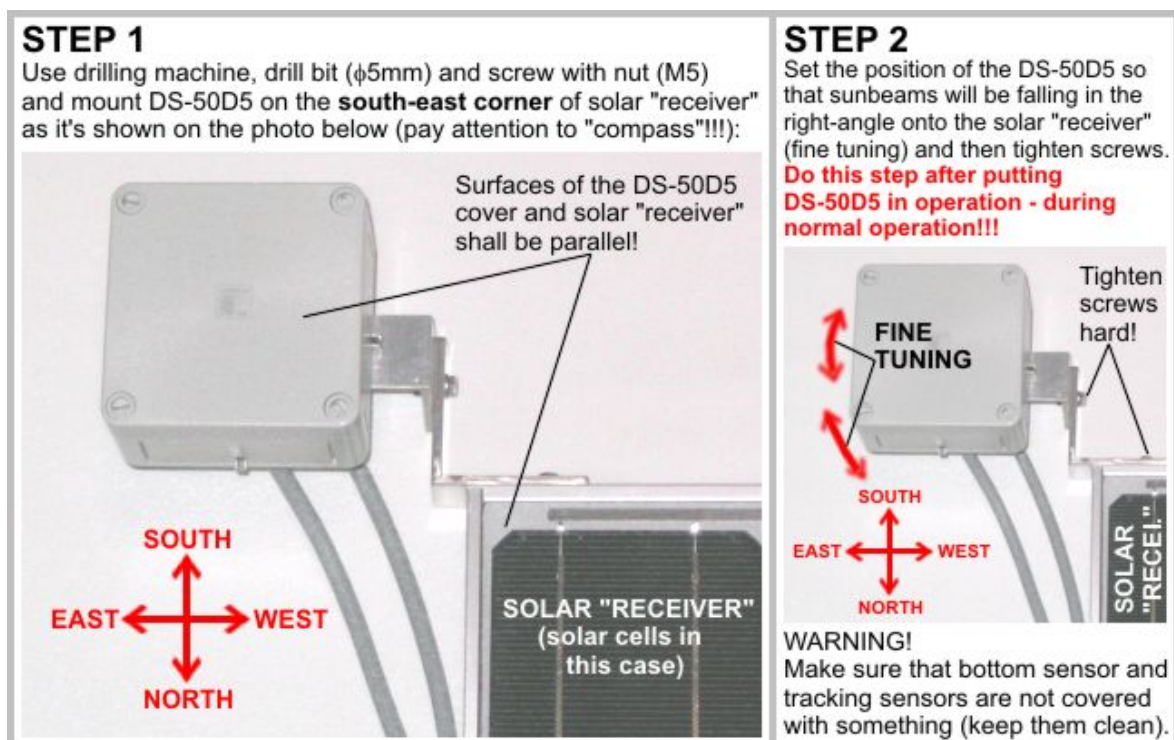

Figure 8: Mounting DS-50D5 on the solar "receiver" (southern hemisphere)
b) If your tracker (solar "receiver") is positioned somewhere in the southern hemisphere of the earth mount DS-50D5 on the south-east corner of your solar "receiver" as it's shown on Figure 8: